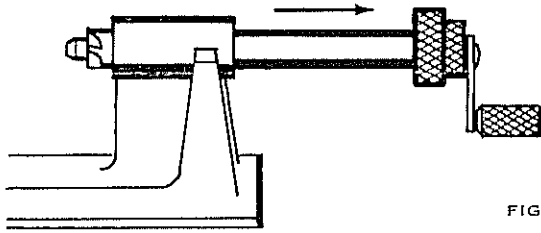

FIGURE 3
- 1 Grasp handle and slide Cutter Assembly to the right until it stops. (Figure 3)